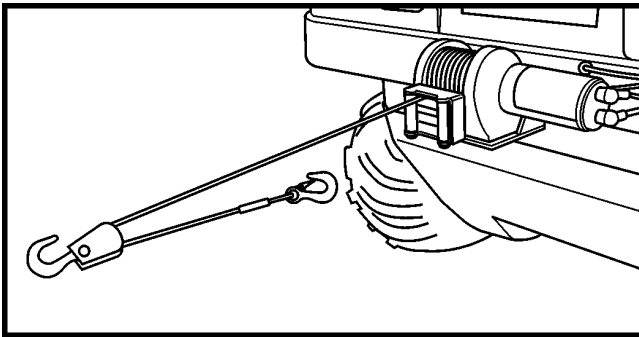

Figure 11-13. Double Line.
1. The winch is rated at 4,000 pounds (single-line) capacity. **DO NOT OVERLOAD. DO NOT ATTEMPT PROLONGED PULLS AT HEAVY LOADS. DO NOT MAINTAIN POWER TO THE WINCH IF THE MOTOR STALLS.** Overloads can damage the winch and/or the wire rope and create unsafe operating conditions. For heavy loads, we recommend the use of the optional pulley block and hook assembly (Warn Part No. 28881) to double line the wire rope. (Figure 11-13) This reduces the load on the winch and the strain on the wire rope by approximately 50%.